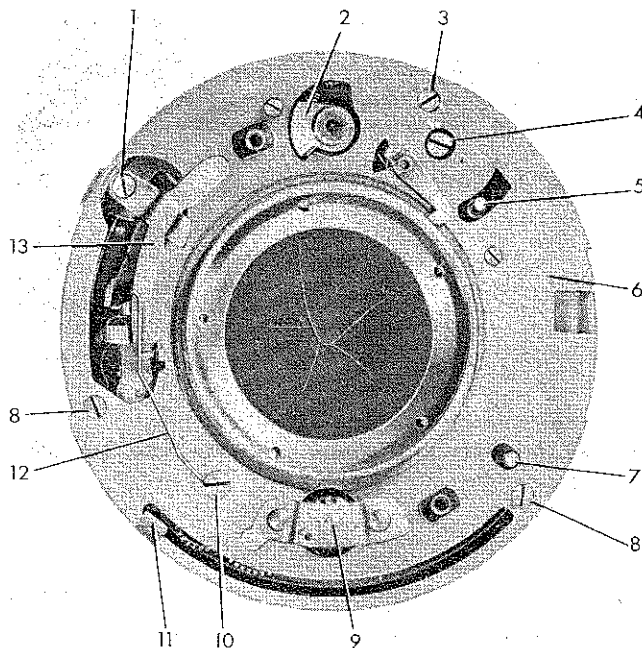

Figure 34—Shutter after Removal of Parts on Front
(2) COVER COMPLETE AND ASSOCIATED PARTS. (See figure 34.)